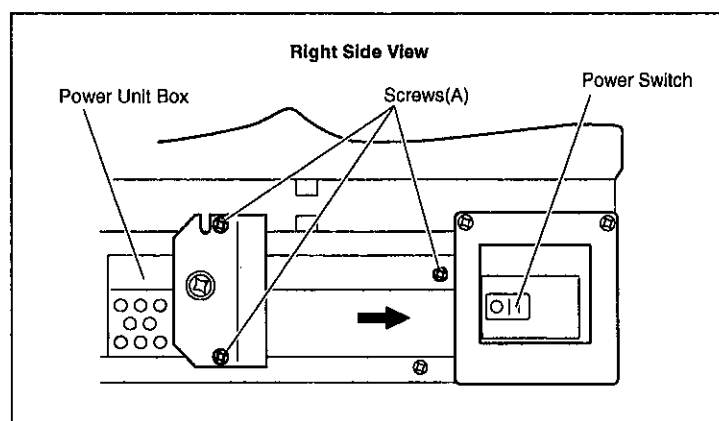

Fig. 8-27
- 2) Remove 3 screws(A), as shown in Fig. 8-27.
- 4) Slide Power Unit Box to the back side, according to the arrow, as shown in Fig. 8-27.